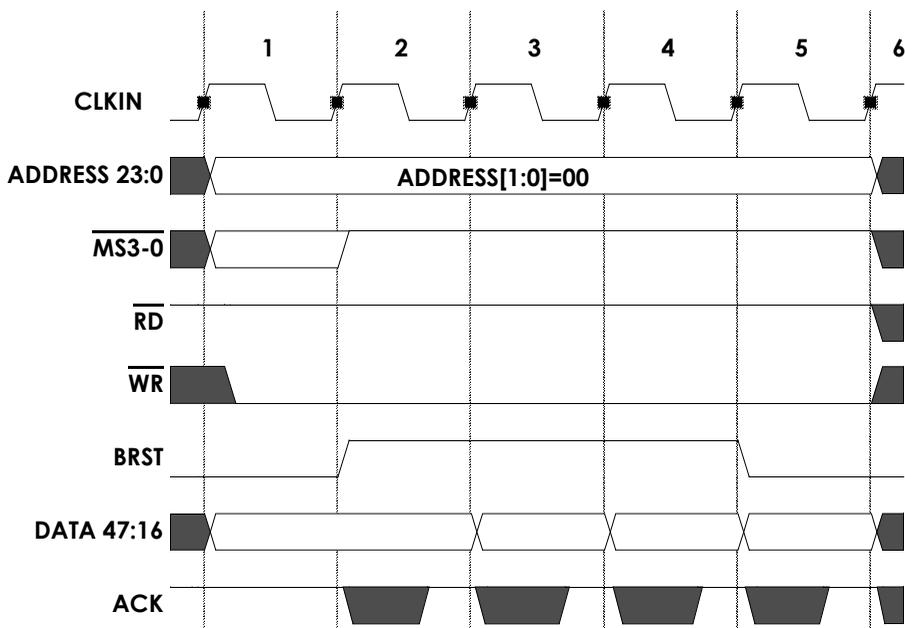

Figure 7-14. External Memory Synchronous Burst Write Example
An example of a synchronous burst write appears in Figure 7-14. Here, the bank used in the transfer has the one-waitstate mode, for the first write of the burst.
External memory synchronous burst writes occur with the following sequence of events as shown in Figure 7-14:
1. (cycle 1 in Figure 7-14) If  $ACK$  is sampled asserted at the start of cycle 1, the DSP drives the write address and asserts a memory select signal ( $\overline{MS3-0}$ ) to indicate the selected bank. The DSP also drives valid data in this cycle. The DSP asserts the  $\overline{WR}$  strobe to indicate a write command to the slave.